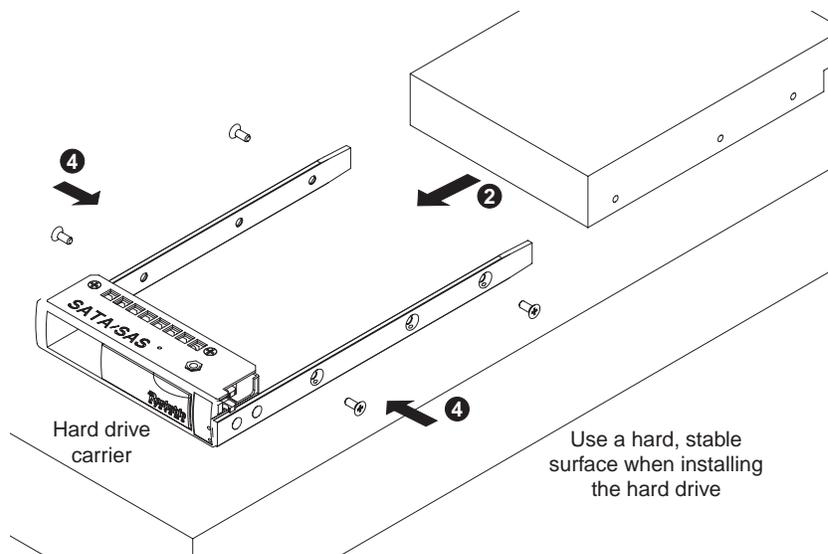

Figure 6-4 Mounting a Drive in a Carrier
2. Slide the hard drive into the carrier with the printed circuit board side facing down (see Figure 6-4).
4. Secure the hard drive using all four screws (see Figure 6-4).